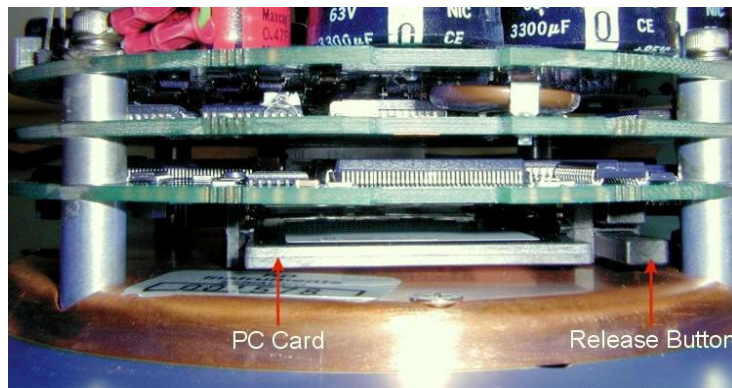

Figure 29. PC Card Recorder
The PC Card recorder is located on the Digital Signal Processor (DSP) board inside the WorkHorse's electronics (see Figure 29). To recover data, the card can be removed and used in a personal computer (PC), or left in the WorkHorse, and accessed by using *WinSC* (see the *WinSC* User's Guide). To remove or install a PC card, do the following.